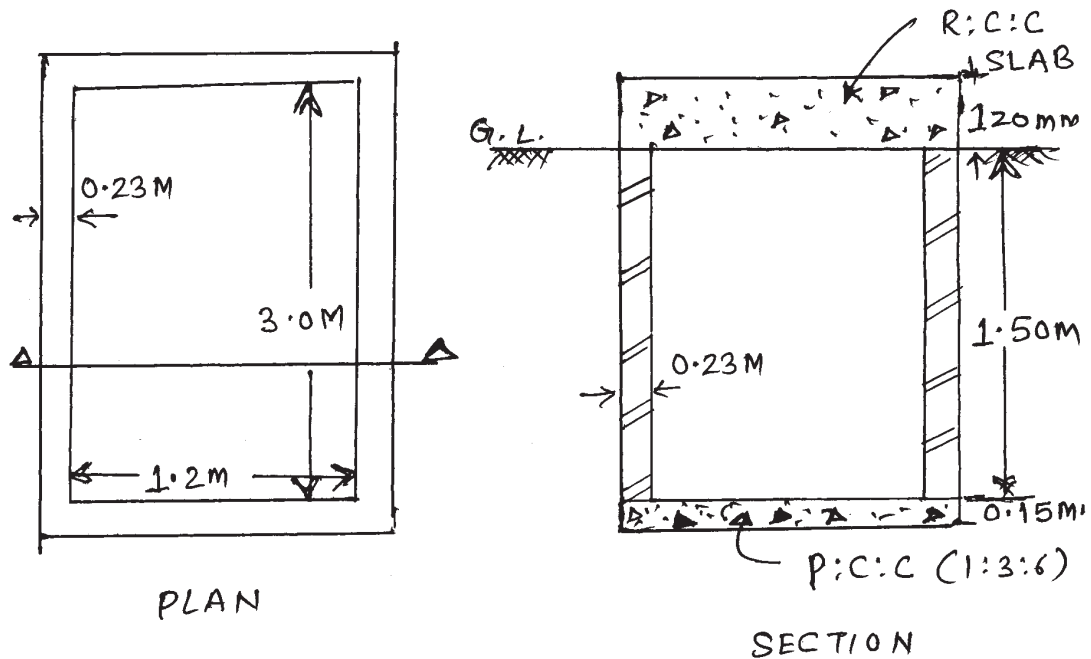

Fig. No. 3
b) Work out the quantity of following items for septic tank having internal size 1.2 m \times 3.0 m and height 1.5 m from Figure No. 3.